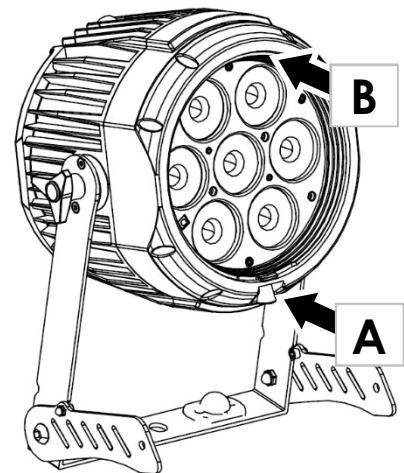

Figure 8. Mounting points for optical accessories
1. See Figure 8. Pull the spring-loaded locking pin **A** outwards, away from the center of the fixture.